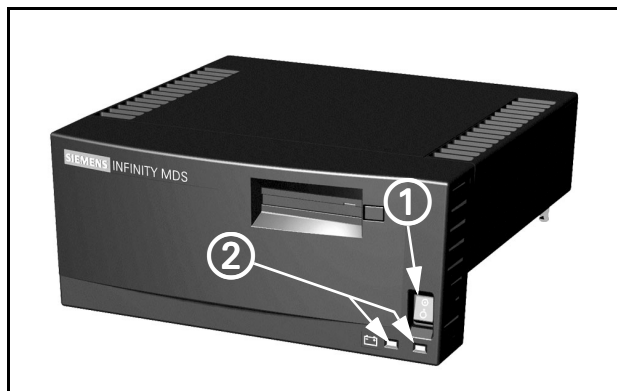

Figure 6-1 MDS (front view)
6. Verify two power LED's on front panel illuminate green (② in Figure 6-1), Medside Data Station emits a brief tone, and monitor display begins boot sequence.